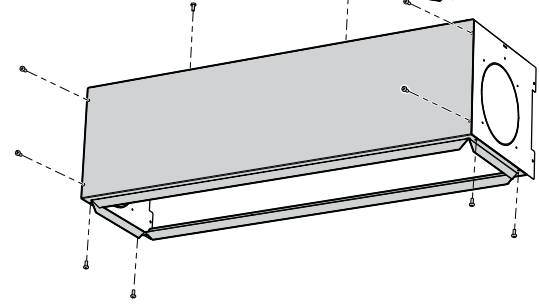

fig.10
- Use the four screws provided to fasten the RPA\_V accessory to the unit intake vent (fig.10)